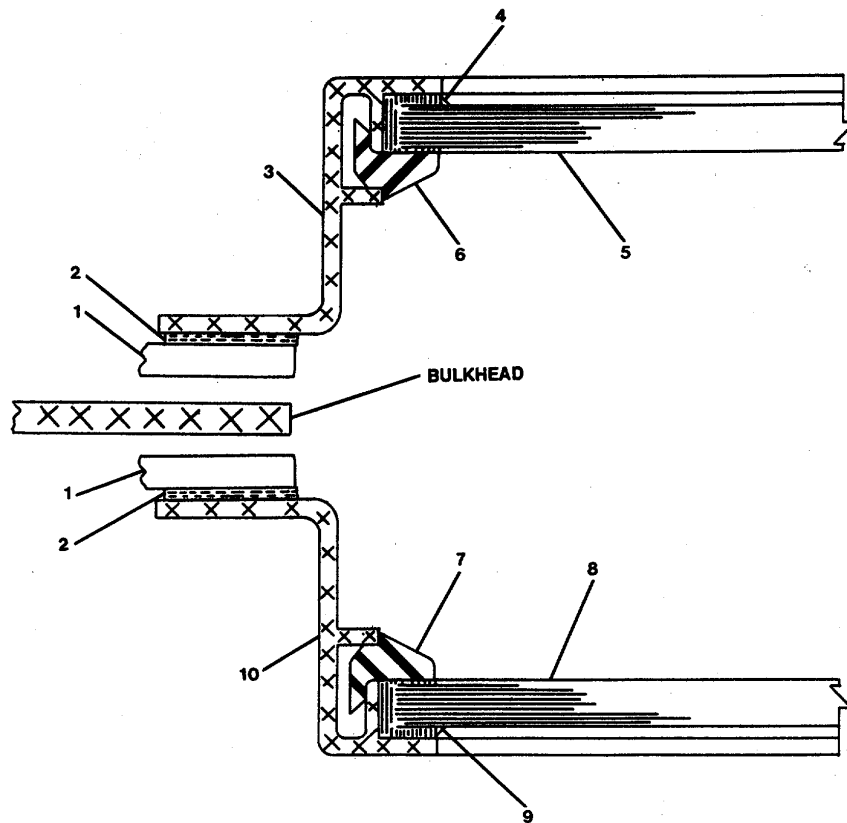

FIGURE 3-178. *Repair Fixed Window. Double Pane.*
- Clean off old adhesive sealant (1, Figure 3-178) and sealing tape (2) from around bulkhead opening.
- Carefully remove (heat treated) window glass (5) and (wire inserted) window glass (8) from window frames (3, 10).